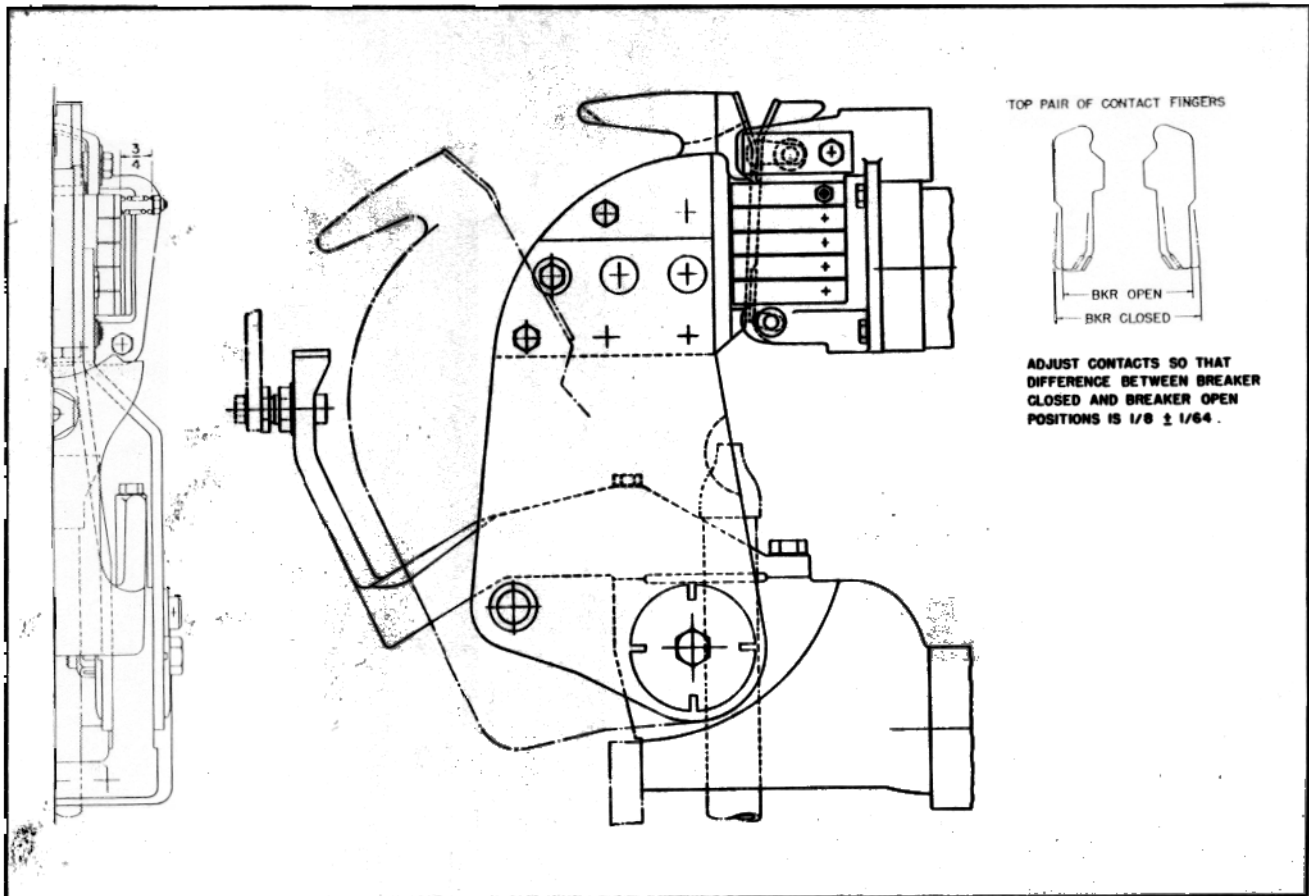

FIG. 15. Pole Unit Assembly
**4. Check contact adjustment.** The breaker contacts are properly adjusted when the difference between the breaker closed and breaker open position as measured across the outside of the top pair of main contact fingers is  $\frac{1}{8} \pm \frac{1}{64}$ -inch. (See Fig. 15). If adjustment is required, it is made by loosening the two lock nuts on the lower end of the operating rods and turning the adjusting stud to lengthen or shorten the lift rods as required. Be sure to tighten the lock nuts after adjusting the contacts.
**Contacts.** Each time the breaker is operated, a small amount of the contact material is eroded away. In order to maintain proper pressure as the contacts erode, it is necessary to readjust the contacts from time to time to compensate for wear. The contacts are properly adjusted when the difference between the breaker closed and breaker open position as measured across the outside of the top pair of main contact fingers is  $\frac{1}{8} \pm \frac{1}{64}$  inch. See Fig. 15.